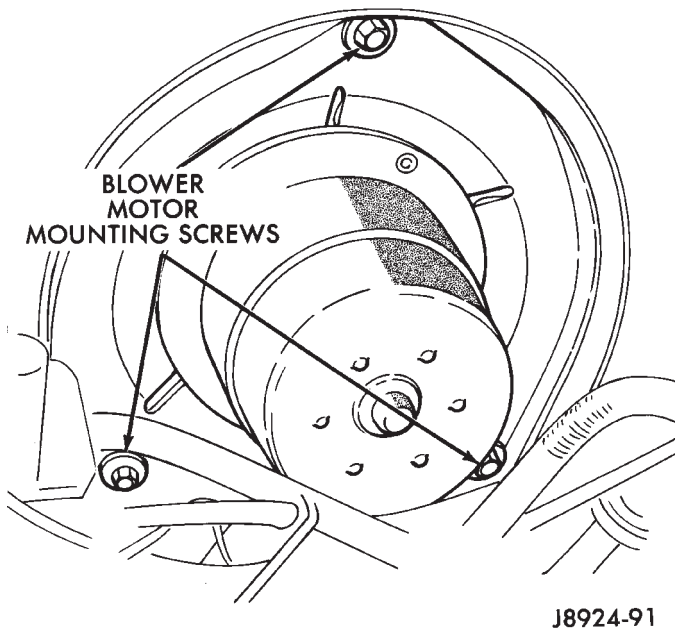

Fig. 10 Blower Motor Mounting Screws
- (2) Remove the blower motor and fan assembly mounting screws (Fig. 10).
- (3) Remove the blower motor and fan assembly.
(5) Remove the blower motor and fan assembly mounting screws (Fig. 10).
(6) Remove the blower motor and fan assembly.